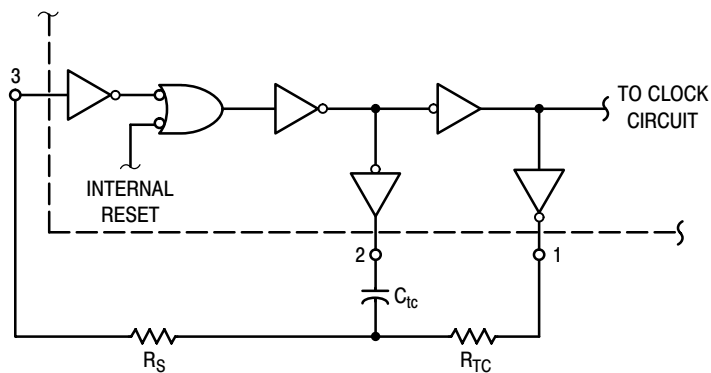

Figure 3. Oscillator Circuit Using RC Configuration
4. When using the on chip oscillator the total supply current (in μAdc) becomes: IT = ID + 2 Ctc VDD f × 10-3 where ID is in μA, Ctc is in pF, VDD in Volts DC, and f in kHz. (see Fig. 3) Dissipation during power-on with automatic reset enabled is typically 50 μA @ VDD = 10 Vdc.
The RC oscillator as shown in Figure 3 will oscillate with a frequency determined by the external RC network i.e.,